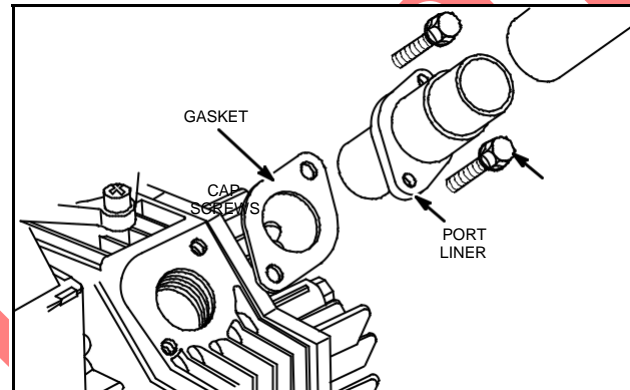

Fig. 13 – Removing Port Liners
Remove two (2) cap screws, port liners and gasket, Fig. 13. Penetrating oil may be required to loosen and prevent galling port liner mounting threads.